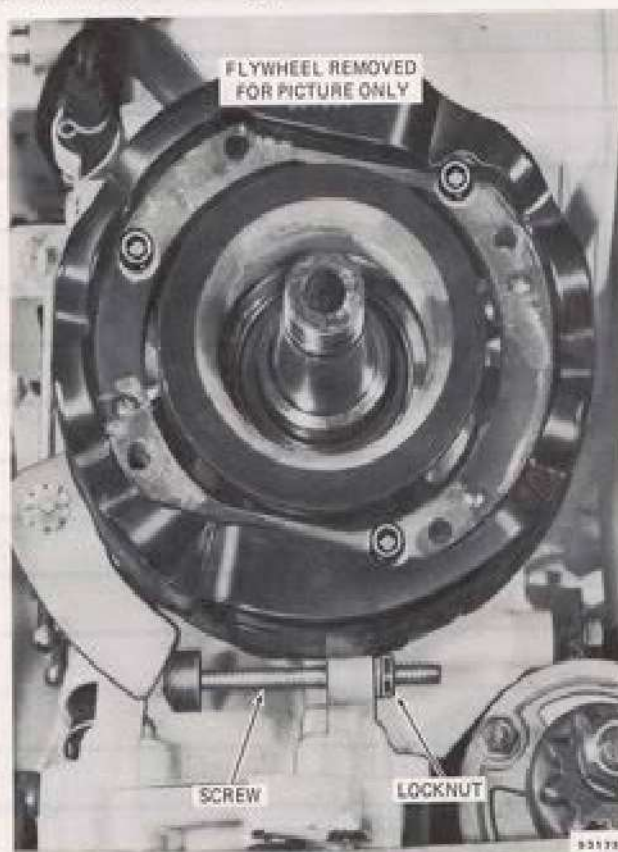

Figure 2-17. Full Spark Adjustment Screw
c. If necessary, stop motor and move advance stop adjustment screw to obtain proper setting. See Figure 2-17. One turn clockwise retards timing about 1°. One turn counterclockwise advances timing about 1°.